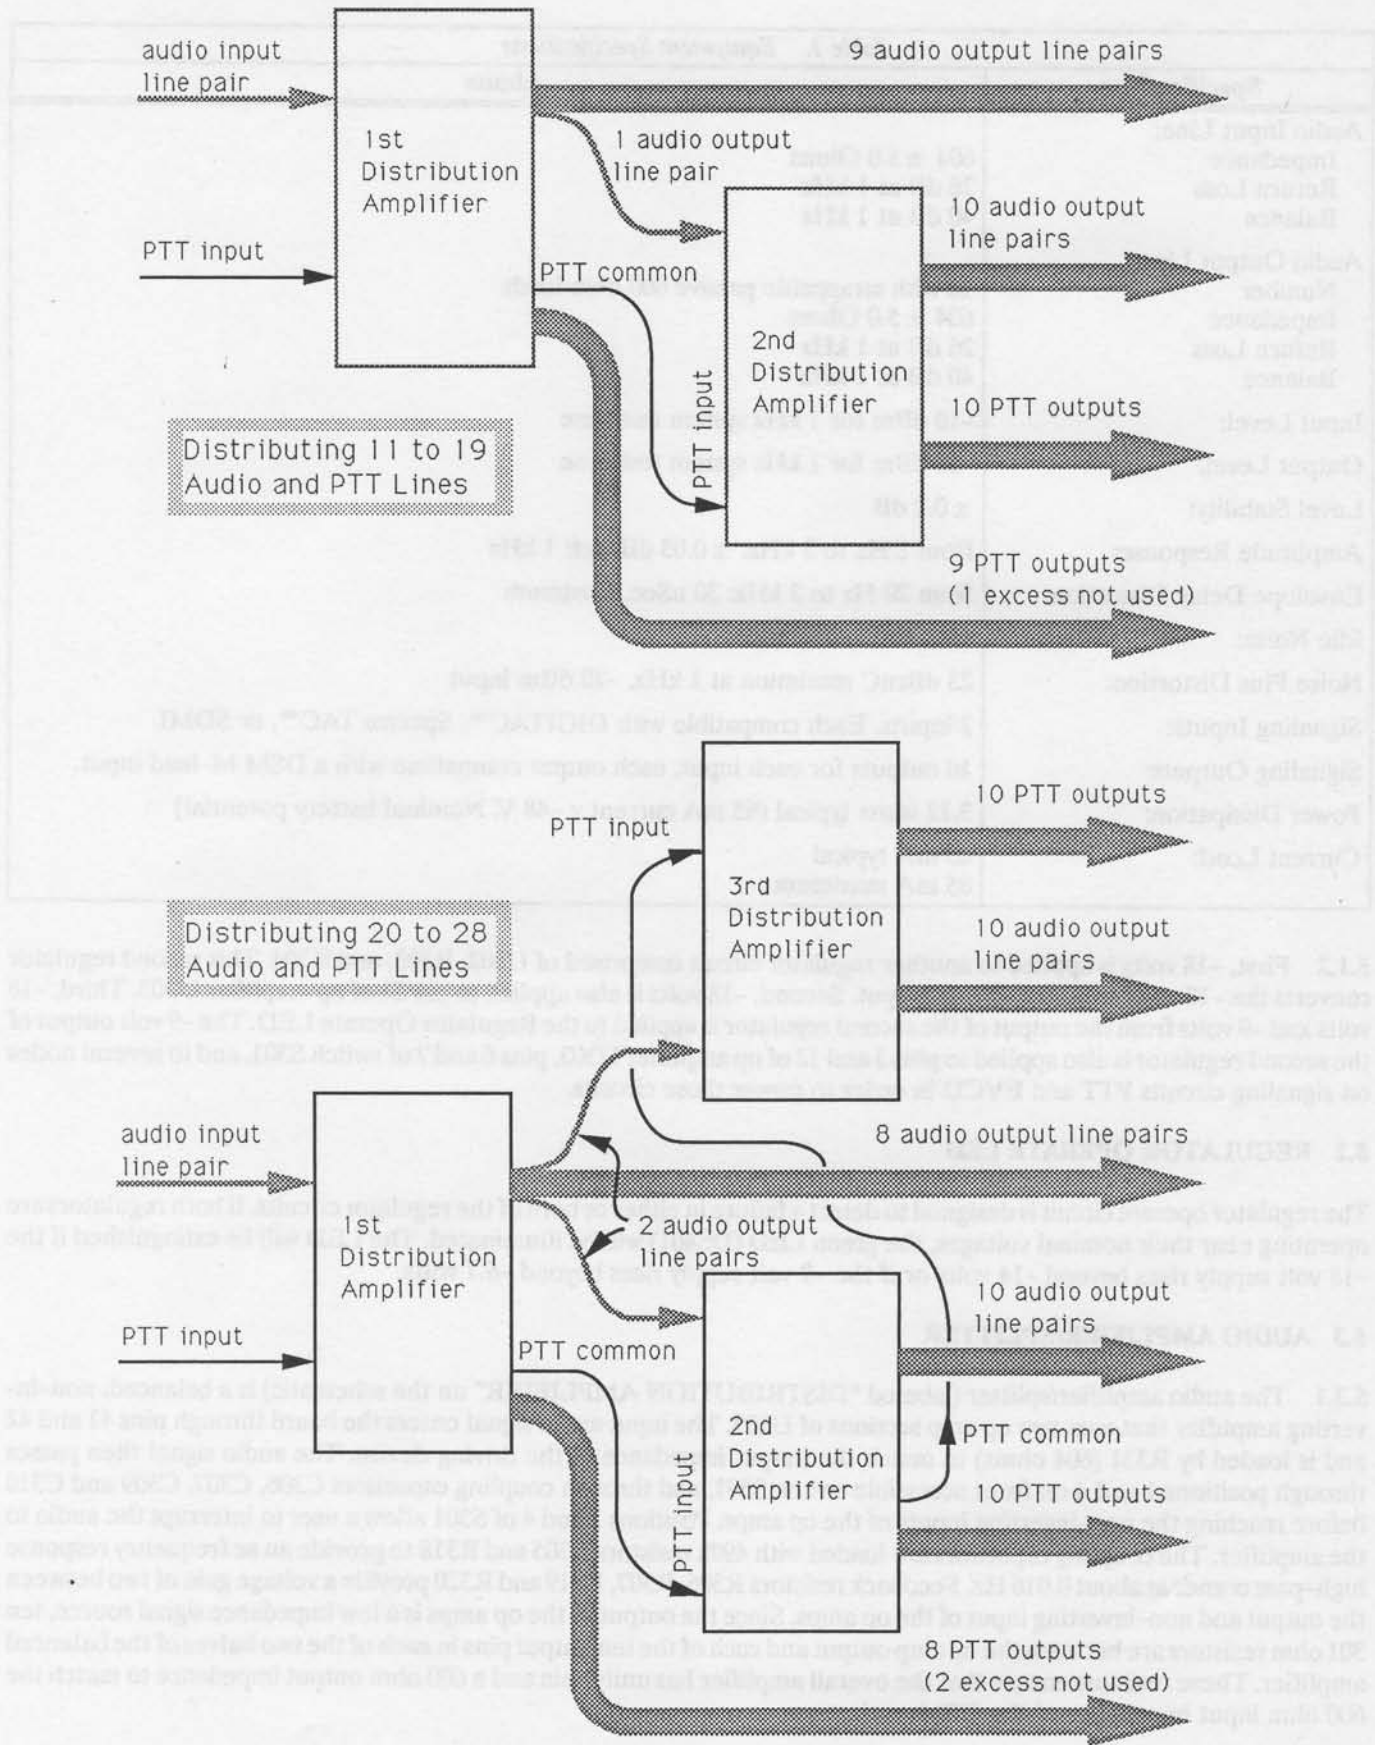

Figure 1. Distribution Amplifier Interconnections
4.3 If more than ten simulcast transmitters are on the same channel, one of the ten 600 ohm line outputs should be used to drive the 600 ohm input line of another distribution amplifier. This results in a capacity of nineteen lines. If more than nineteen line outputs are required, the process may be repeated again, resulting in a total capacity of twenty-eight 600 ohm line outputs for delivery to as many as twenty-eight Digital Simulcast Multiplex Channel Unit 600 ohm line inputs (See Figure 1.)
4.7 If more than ten simulcast transmitters are on the same channel, the PTT (M-Lead) Splitters must be cascaded by wiring the common output of the first module to the input of the next, and so on. (See Figure 1.)
Refer to Figure 1 for more than ten simulcast sites.